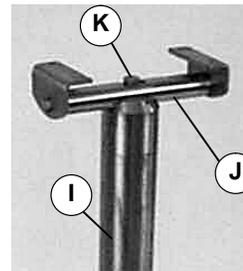

Figure 7
- Secure mounting bar (J of Figure 7) onto outer portion of tube assembly (I) with screw (K) using 25 ft-lb (34 Nm) torque.